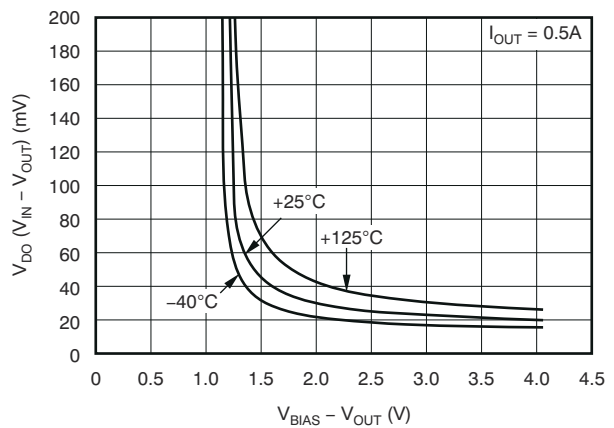

Figure 6-6. Dropout Voltage vs $(V_{BIAS} - V_{OUT})$ and Temperature (T_J)
- (1) Adjustable devices tested at 0.8 V; resistor tolerance is not taken into account.
- (2) Dropout is defined as the voltage from V_{IN} to V_{OUT} when V_{OUT} is 3% below nominal.
- (3) 3.25 V is a test condition of this device and can be adjusted by referring to Figure 6-6.